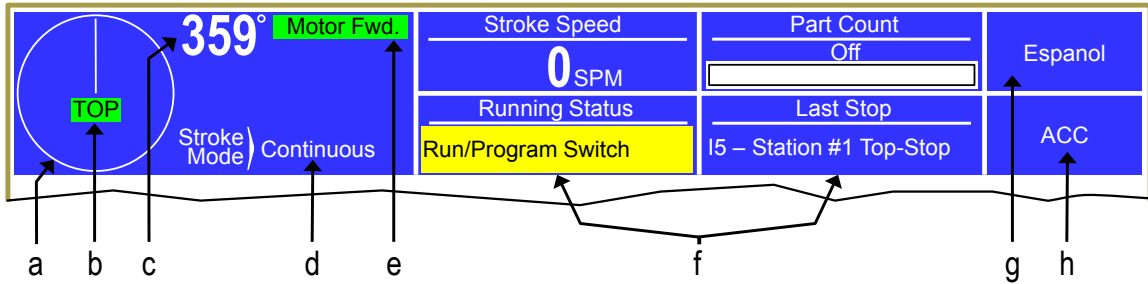

Figure 3: Operator Terminal Top Info Area
The top area of the operator terminal is used to display certain critical information and provide keys that are present regardless of what screen is being displayed. The areas are (refer to Figure 3):
- a) Graphical Display of Crankshaft Angle** For speeds below 70 SPM or so, this will show the crankshaft angle in either a “clock” format (this is the mode shown in Figure 3) or a “traveling dot” format. Press the screen inside the circle to switch between the formats (this can be done at any time, including while the press is in motion). Above 70 SPM, this will change to rotating arrows to indicate crankshaft motion.
Areas inside the white portion of the display are shown with a blue border if that area can be selected. For example, pressing the blue bordered jobs area or the blue bordered counters area will take you to screens related to jobs or counters, respectively. Areas usually displayed along the right side and bottom of the display provide softkeys which may be selected by pressing the field. For example, pressing the “Die Protection” bordered area in Figure 3 will select the die protection screen.